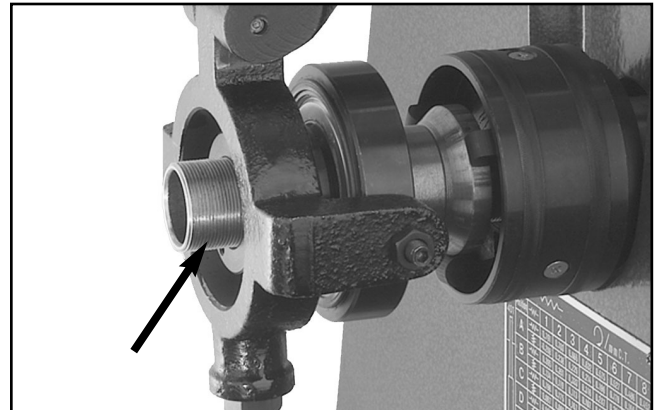

Figure 16. Location to rotate draw tube to remove or replace 5-C collets.
3. Rotate the draw tube counter-clockwise at the end of the collet closer, as shown in **Figure 16**, to unthread the collet.